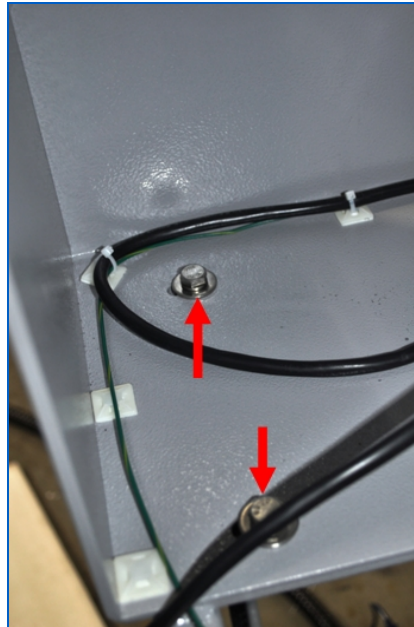

Figure 269: Generator Frame Mounting Bolts
7. Undo the bolts holding the generator frame to the frame of the X-ray unit (Figure 269).